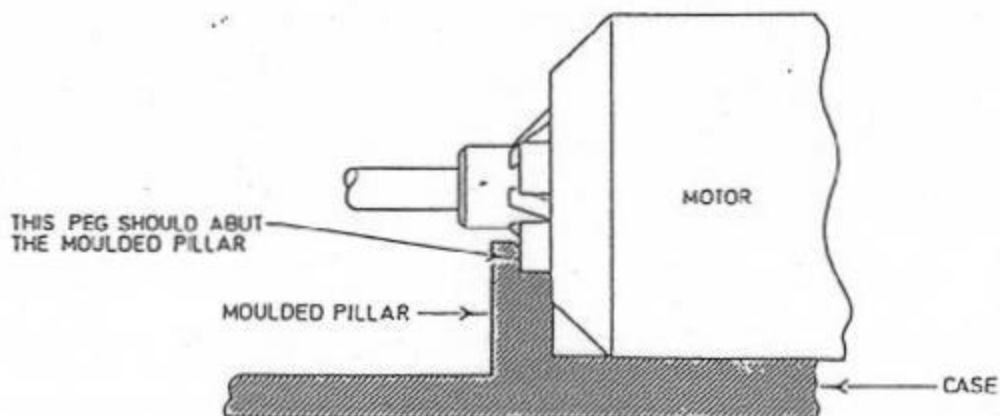

Figure 5 - Correct Orientation of Motor
2. Assemble the START/BOOST pushbutton, seal and switch plate (items 16, 17 and 18) and place them in position over microswitches SW1 and SW2. Make sure the cam lever (item 3) is on SW3 and that it pivots freely.
3. Place the front case half (item 9) over the P.C.B. and hold it in position with the thumb and fingers. Turn the P.C.B. and case over so that the P.C.B. is uppermost. Check that the leads for the motor and battery connector springs are not trapped, and secure the P.C.B. in position with five screws and fibre washers.
6. Place the motor and gearbox in position (see Fig.5). If the motor had a packing sheet underneath, refit this. Replace the motor clamp (item 6) and the securing screw and washer, but do not tighten the screw.
3. Check the motor is still correctly positioned (see Fig. 5) and secure the motor clamp by tightening the screw. If present, re-use the adhesive pad on the clamp to hold down the wires for the piezo-transducer assembly (item 19).